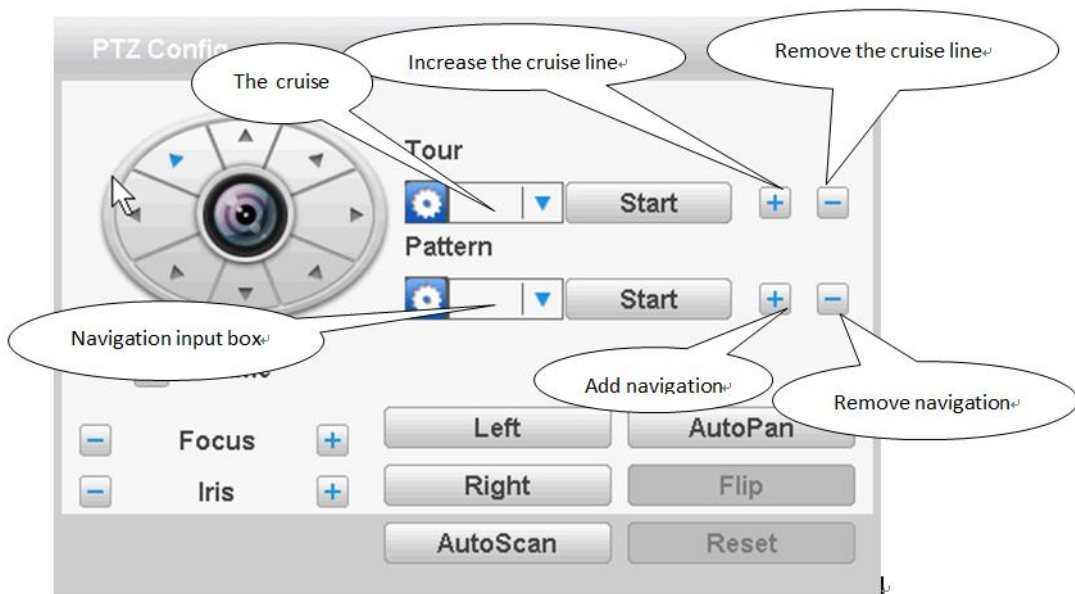

Figure 3.14 Advanced function
In Figure3.14 input point between the cruise number , then click the point  between the cruise, complete the deletion
**In Figure3.14 points in the input box cruise input point between the cruise, and then click the [start] between cruise key.**
Input navigation number in the input box in Figure 3.14, and then click between the [start] key cruise.